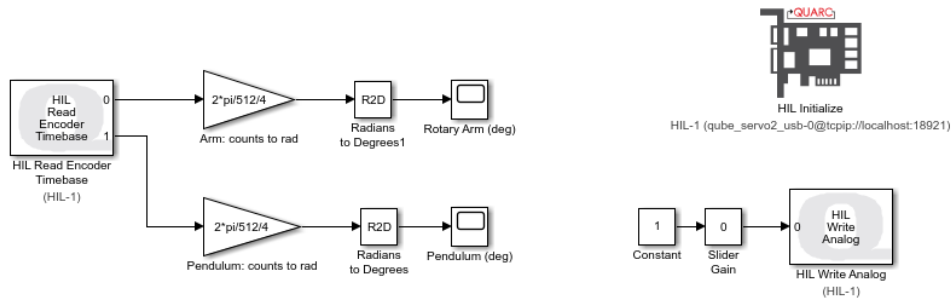

Figure 2.1: **SIMULINK®** model used with **QLABS®** to drive motor and read angles on QUBE-Servo 2 Rotary Pendulum system
In this lab, we will make a **SIMULINK®** model using **QLABS®** blocks to drive to the dc motor and measure both the rotary arm and pendulum angles - similarly as shown in Figure 2.1.
6. Apply a small voltage (e.g. 0.5 V) to the motor by changing the value of the Slider Gain block connected to HIL Analog Output block, shown in Figure 2.1, and examine the rotary arm on the virtual QUBE-Servo 2. Stop the Simulink model. Does the rotary arm on the virtual QUBE-Servo 2 adhere to the modeling convention?